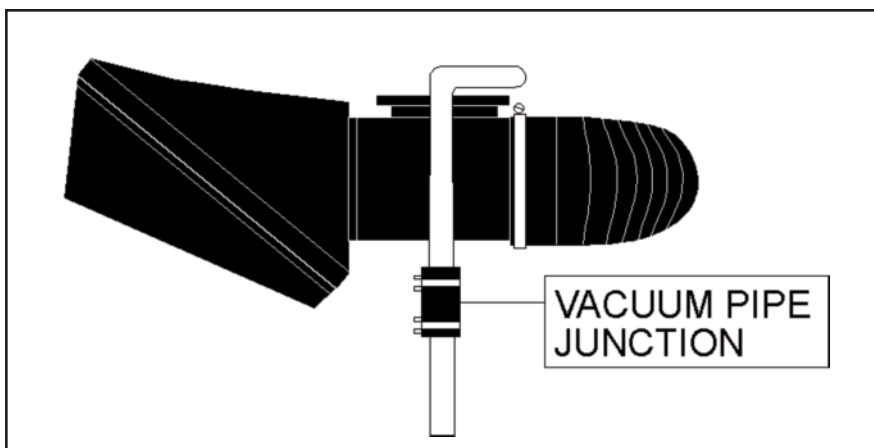
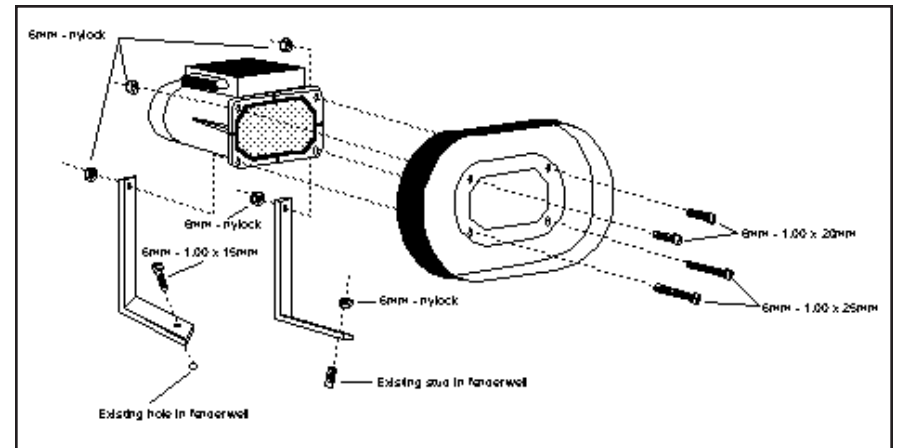

fig. 1
fig. 2
- 3) On some vehicles with a manual transmission; you may need to unhook the vacuum pipe from the rubber hose junction. (see fig. 1)
- 10) Install the filter adapter to the mass-air sensor, re-using the stock rubber gasket. (see fig. 2)
- 13) Install a nylock nut on the stud and a 15mm long allen bolt in the rear bracket. Gently tighten all fasteners (6) at this time.
- 16) Re-connect the vacuum pipe if the vehicle has a manual transmission. (see fig. 1)